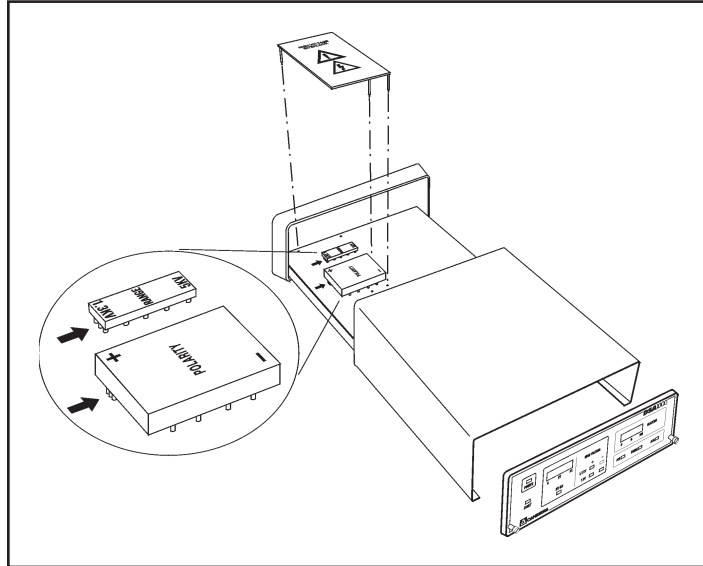

Figure 45 Reinstalling the High Voltage Interlock Board
1. The High Voltage Interlock Board has four connector pins which must be aligned and engaged with the associated receptacle on the High Voltage Board. Orient the Interlock Board so that the caution arrows point toward the rear panel, see Figure 45.